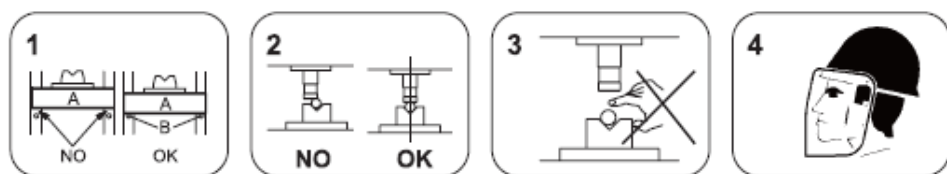

Fig. 14
•Be careful then use the PESS, SAFETY INSTRUCTIONS in document 8940174875 .(Fig.14)